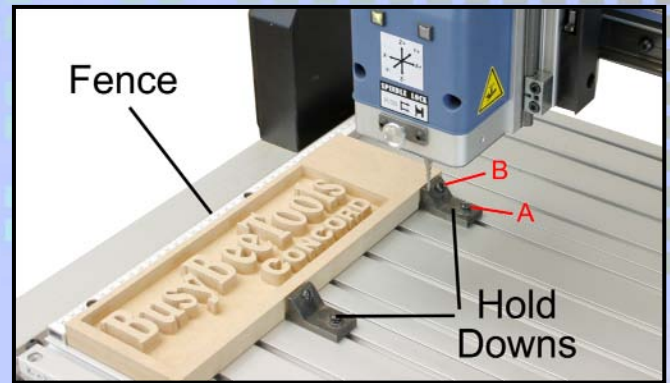

Figure-43
1. Place the work-piece against the fence as shown in figure-43.
3. Secure the hold down into position by tightening the screw (A).
4. Finally, turn the cap screw (B) clockwise until the work-piece is held firmly in position.